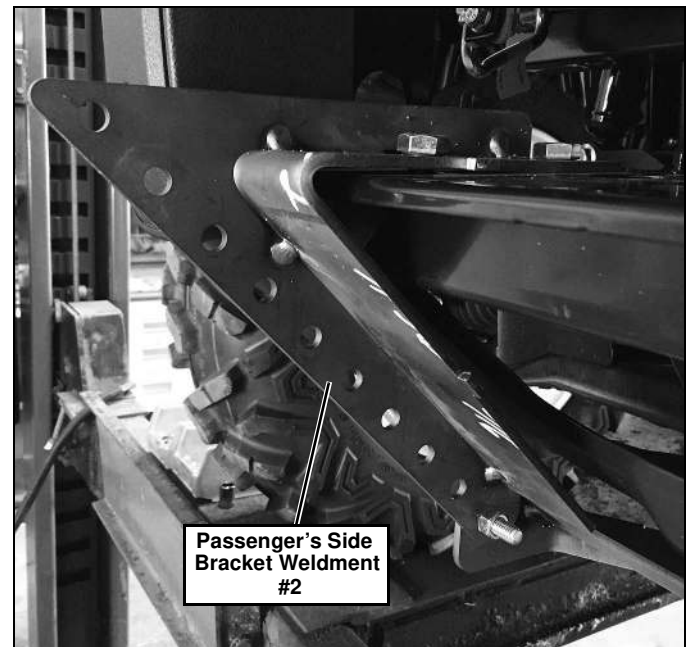

Figure 6
8. Using the Passenger's Side Bracket Weldment (#2), repeat steps 3-7 on the passenger's side. (See Figure 6.)